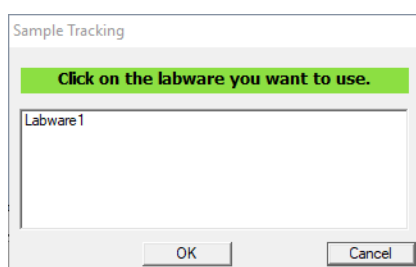

Fig. 5-18 Sample Tracking; Labware selection screen
- 2 Enter the identification information into the Identity section (A) Fig. 5-22, Fig. 5-18.
- 3 Edit the values to set to the tube or well in the in the Values To Set section (B) Fig. 5-22, Fig. 5-18.
- 4 Click on OK to proceed Fig. 5-22, Fig. 5-18.